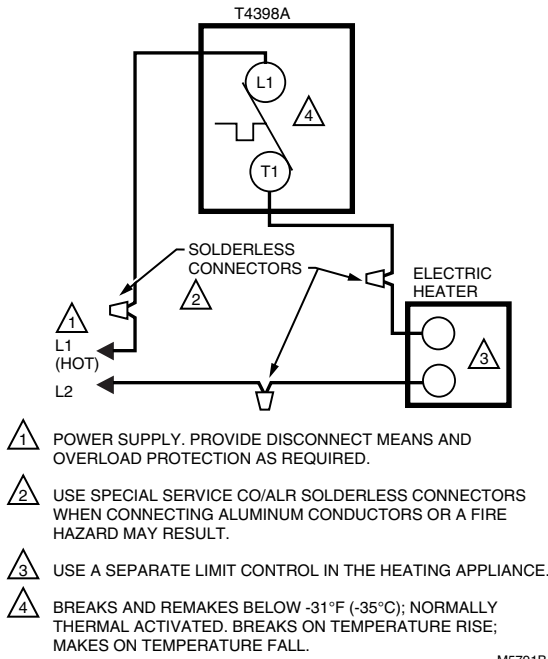

Fig. 2. Typical wiring connections for T4398A.
4. Do not remove T4398 Thermostat Cover. Using wire connectors approved for No. 12 wires, make line voltage connections directly to leadwires on thermostat. See Figs. 2 and 3 for typical wiring connections.
- 3** Do not remove T4398 Thermostat Cover. Using wire connectors approved for No. 12 wires, make line voltage connections directly to leadwires on thermostat. See Figs. 2 and 3 for typical wiring connections.